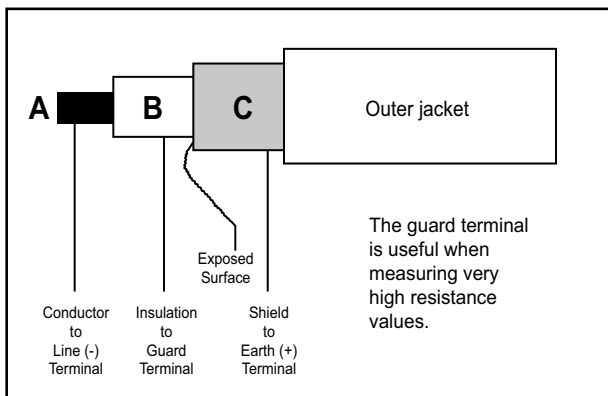

Figure A-1 - Shielded Cable
- The use of the guard terminal is most important when there is a significant exposed surface in a cable. When testing the insulation at the end of a cable, it is necessary to eliminate the error from surface leakage which occurs, particularly at high resistance values. The guard terminal provides a third terminal within the path of the surface leakage. Connect the instrument as shown in Figure A-1.